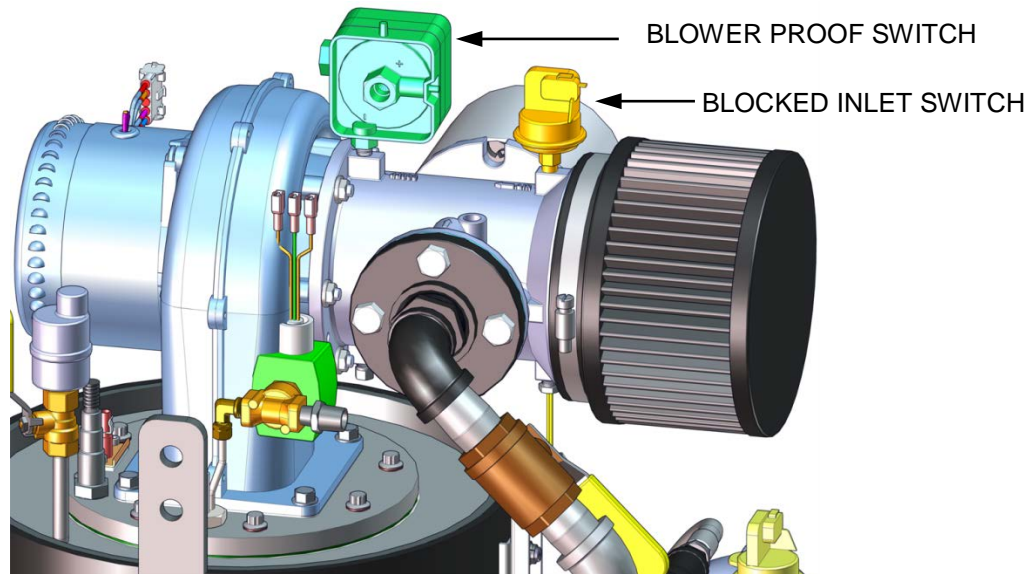

Figure 3-3a: BMK 750 & 1000 Blower Proof Switch
- Next, the blower proof switch on the Air/Fuel Valve (Figure 3-3a and 3-3b) closes. The display will show **PURGING** and indicate the elapsed time of the purge cycle in seconds.